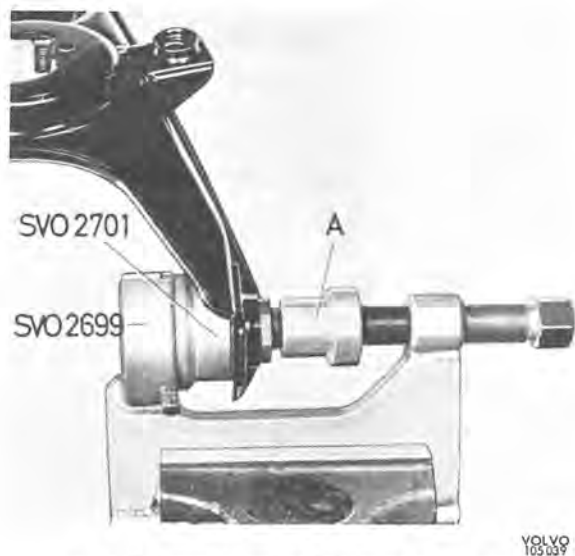

Fig. 6-31. Removing rubber bush, lower control arm
1. Tension the press tool SVO 2699 in the vice. Remove the washer (1, Fig. 6-13), the rubber ring (2) and the spacing ring (3). Press the bushes out with counterhold SVO 2701. Use drift SVO 2904 for bushes where diagonal tyres are fitted and SVO 2905 for radial tyres. The tools are placed as shown in Fig. 6-31. The bushes are, of course, pressed out in the direction towards their flanges.
2. Press in the bushes with the control arm and drift (A, Fig. 6-31) facing in the opposite direction.